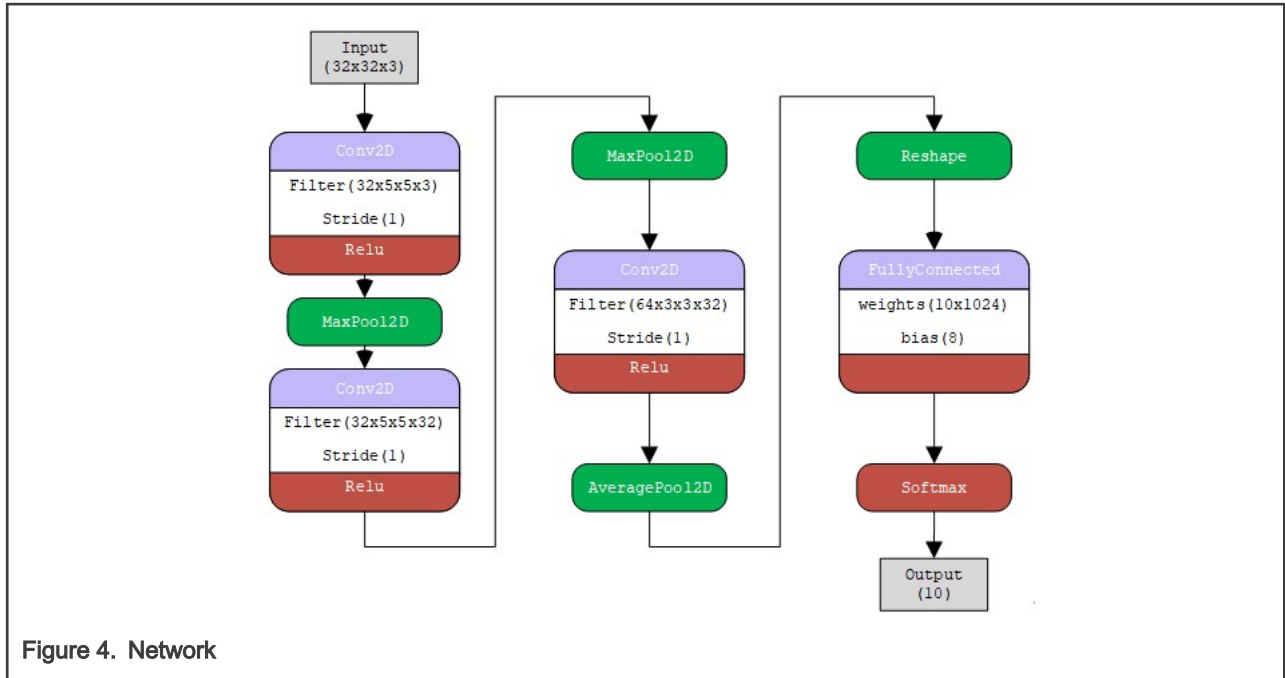

Figure 4. Network
2. Open the model with the model tool, and the network is as shown in Figure 4.